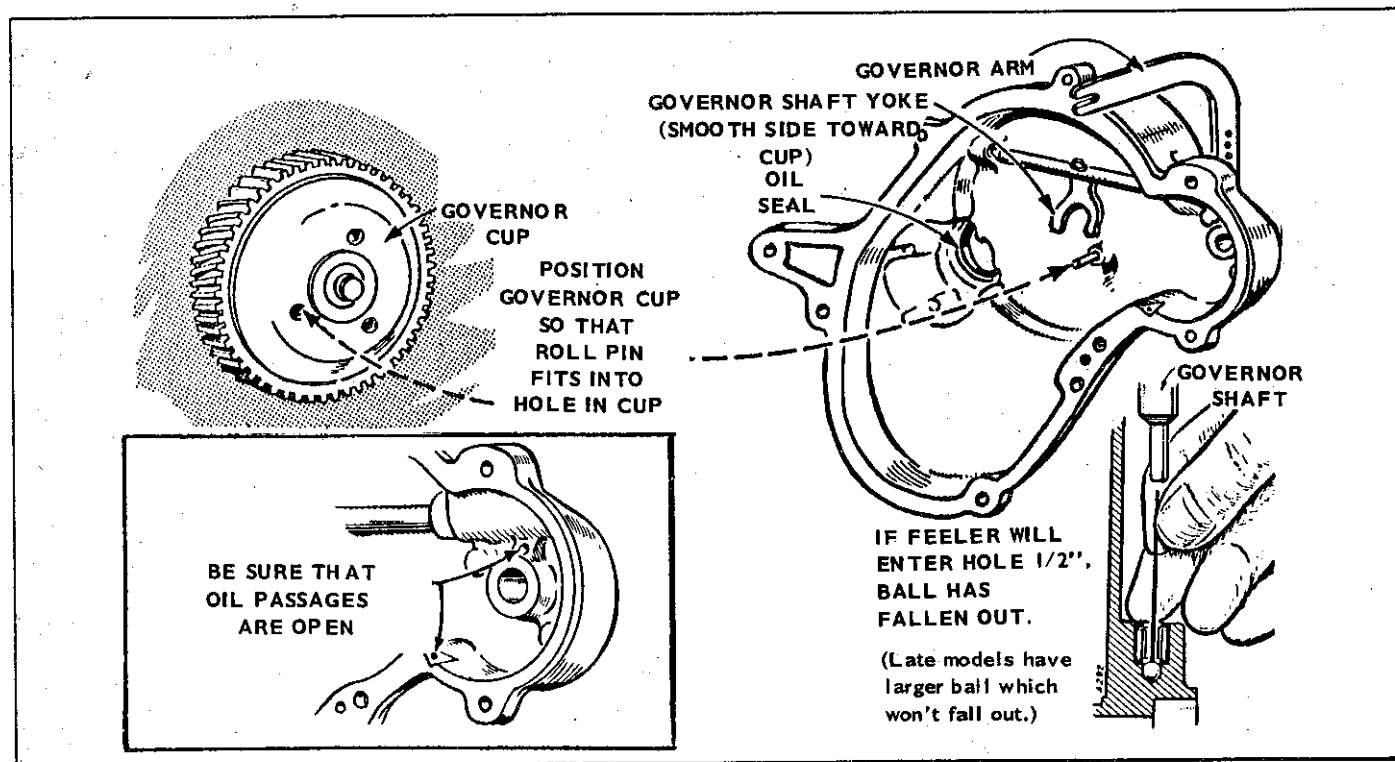

FIGURE 66. GEAR COVER AND GOVERNOR SHAFT
1. Operate the governor shaft to check for binding and see that the governor-shaft-end-thrust ball is in place (Fig. 66).
gear cover will fit into one of the holes in the cup surface (Fig. 66). Measure the distance from the end of the stop pin to the mounting face of the cover. It should be $25/32$ ". If not, replace the pin. Position open edge of pin toward crankshaft seal to avoid governor cup drag.
3. Use an oil seal driver (or a piece of shim stock over the crankshaft keyway) to protect the oil seal and install the gear cover. Tighten the mounting screws to specified torque. Before tightening the screws, be sure the stop pin is in the governor cup hole (Fig. 66).